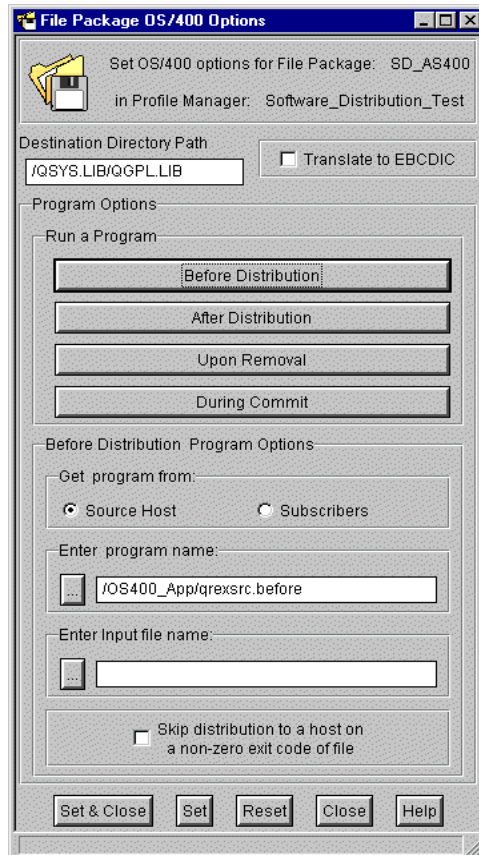

Figure 330. Specifying a Before Distribution program
9. To specify our pre-distribution script, click on the **Before Distribution** button. Select **Source Host** in the Get Program section to specify that we want to get the program from the same place as the file package, itso1. Enter the location of the script, /OS400_App/qrexsrc.before, in the Enter program name field as shown in Figure 330.